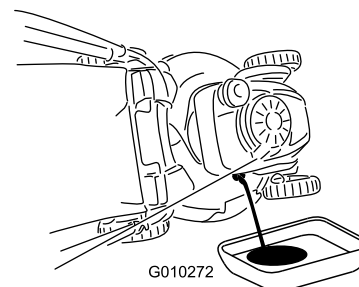

Figure 40
3. Tip the mower onto its side, with the air filter up, to drain the used oil out through the oil fill tube (Figure 40).